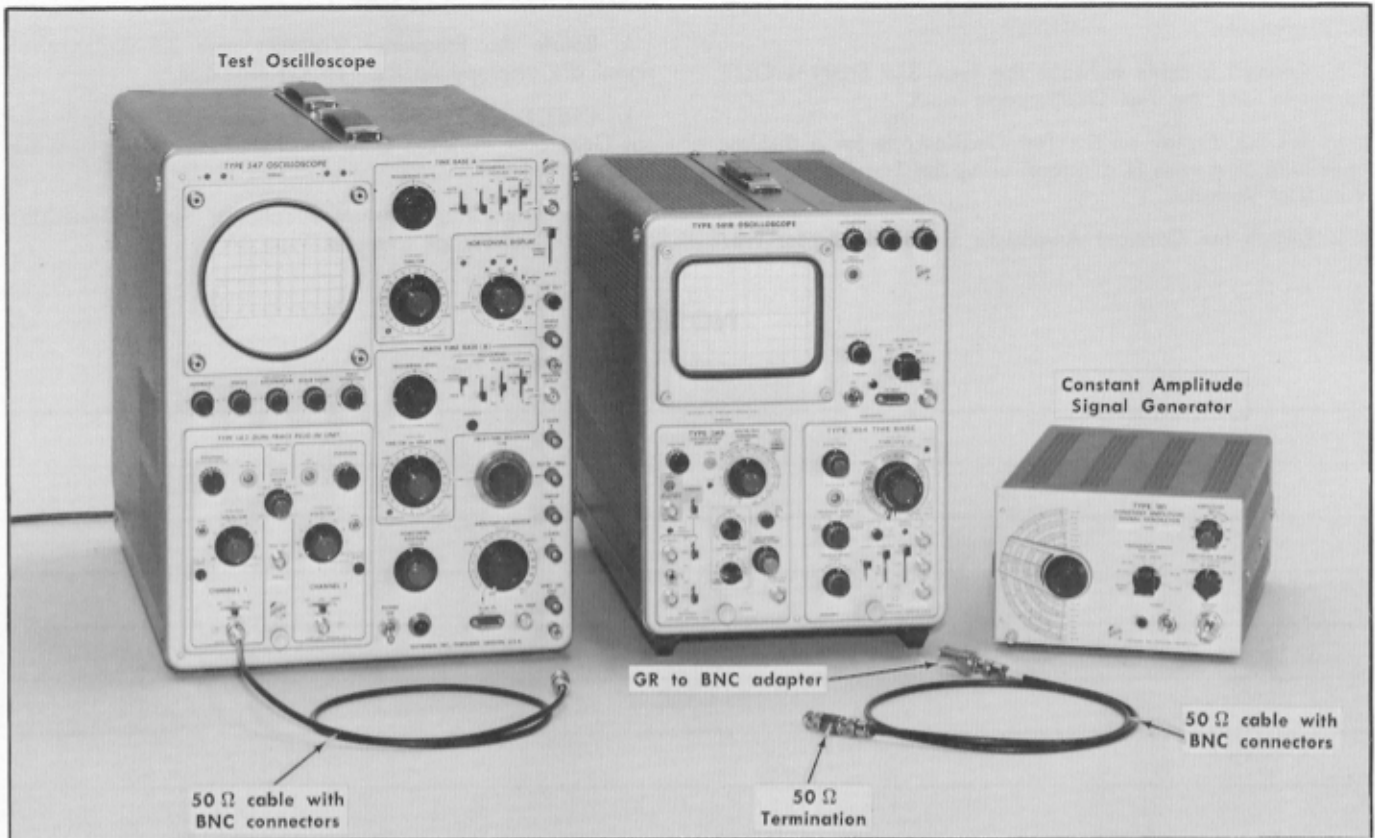

Fig. 5-38. Equipment required for step 32.
- a. Test equipment is shown in Fig. 5-38.